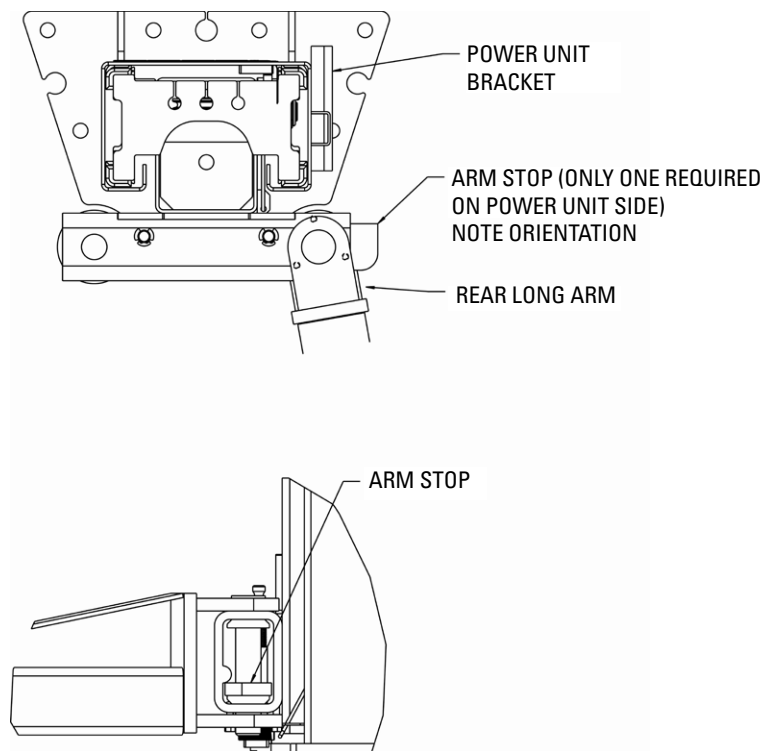

Figure 20
- B. Position the gears with word TOP against the bottom of the arms in the orientation shown in Figure 20. Attach the gears to the arms with (2) 3/8-16NC X 1-1/2 long HHCS. Do not tighten at this time.
- * Install the swing arms and swing arm pins. If the arms are of different lengths, the longer arms go to the rear or drive in side of the lift, and the short arms go to the front, Figure 20.
- * Install the swing arms and swing arm pins. If the arms are of different lengths, the longer arms go to the rear or drive in side of the lift and the short arms go to the front, Figure 20.
- C. Raise the lift empty to the top of its travel and lower it the floor three (3) times to remove the remaining air from the hydraulic system.